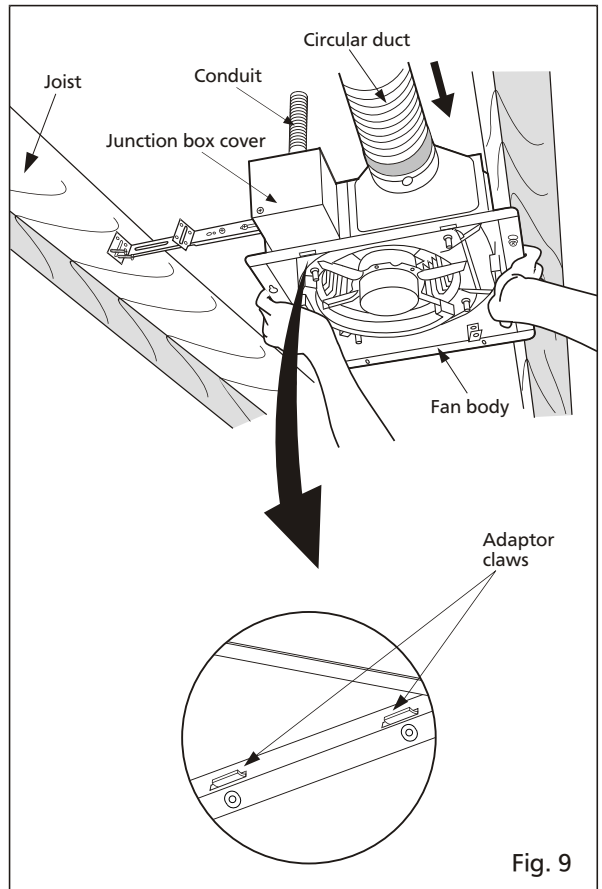

Fig. 9
- Insert the fan body into joists. (Fig.9)
- Insert fan body (without blower section) into joists. (Fig. 9)